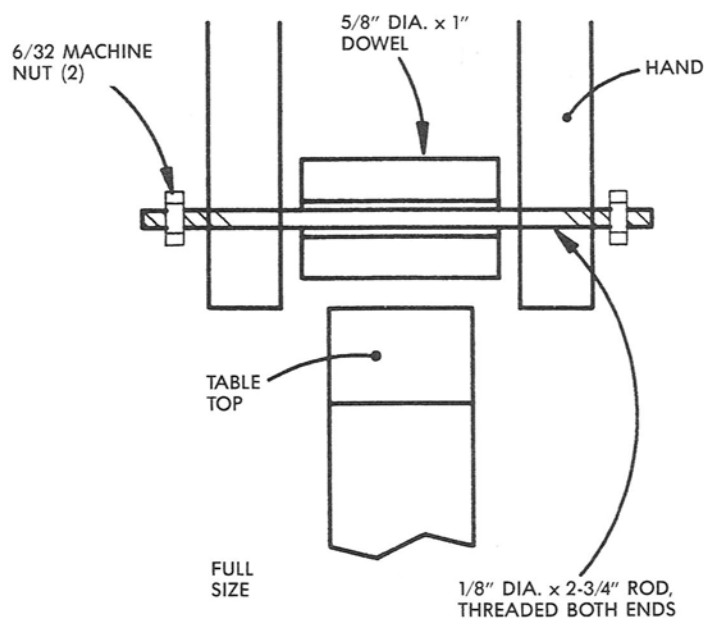

Figure 4-8. Rolling pin detail.
8. Make the rolling pin as illustrated (Fig. 4-8). To make the roller, drill a 1-inch piece of 5/8 in. hardwood dowel, with a 3/16 in. bit and line with tubing. Thread a 2-5/8 in. piece of 1/8 in. rod for the pin. Insert the rod in the hands and secure it with 6/32 machine nuts. When the torso is moved forward the arms will push the rolling pin, and when it is moved back, the rolling pin will roll back. The oversized hands will keep the pin on track. Attach the connecting rod, permitting the rolling pin to roll in the middle of the table with the body always leaning forward.